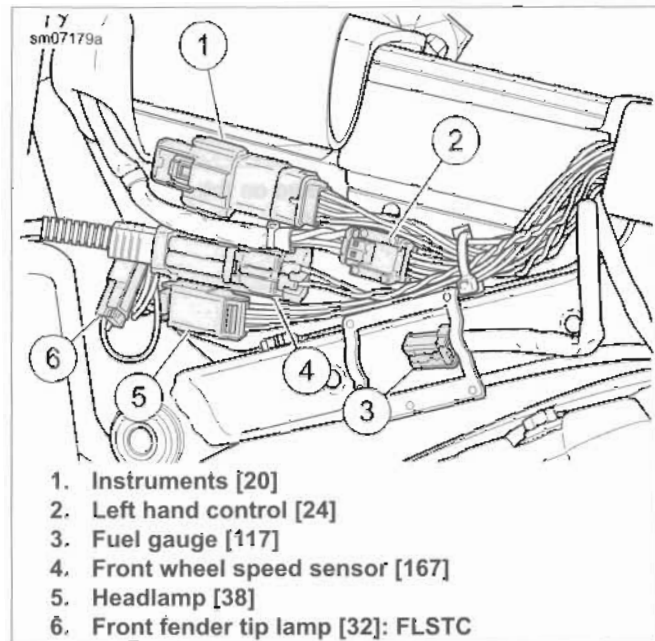
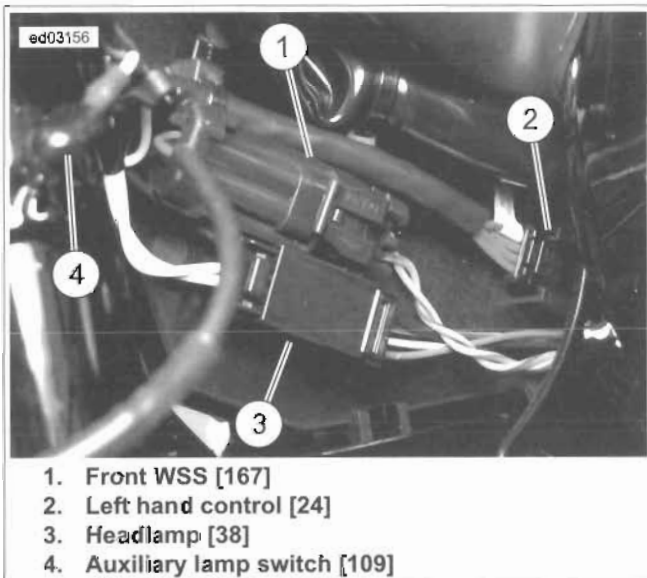

Figure 7-89. Under Fuel Tank Left Side
Figure 7-88. Under Fuel Tank Left Side: FXSB
2. See Figure 7-88 or Figure 7-89. Disconnect front WSS connector (1).
3. See Figure 7-88 or Figure 7-89. Connect front WSS connector (1).